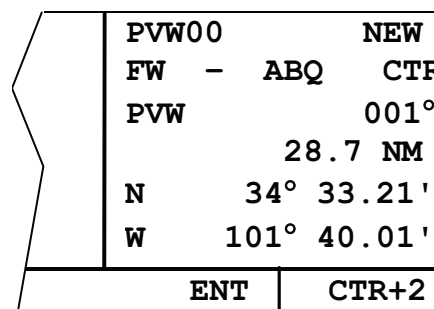

Figure 3D-109. Center 2 Page
(2) *Inserting Center Waypoint Into Flight Plan.* Insert the enter waypoints into the desired flight plan by returning to the CTR 1 page on the right side and pressing the **ENT** button. The Center waypoints are inserted into the flight plan in the correct order. Refer to Figure 3D-110.